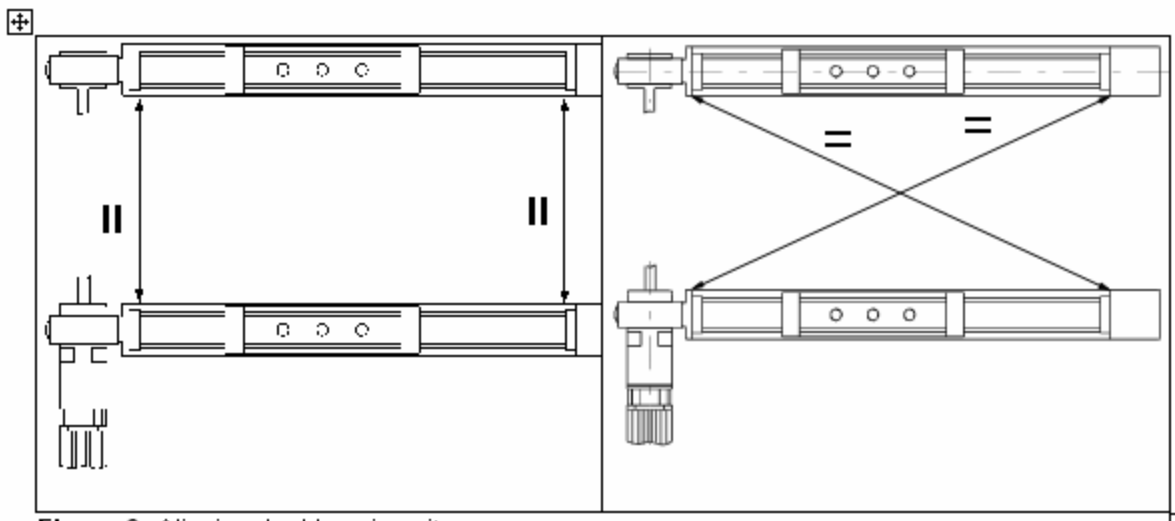

Figure 2: Aligning double axis unit
6. Measure for parallelism using tape measurer [Figure 2 left].
7. Check squareness with diagonal measurement (tape measurer) [Figure 2 right]. If adjustment is needed, correct by moving non-driven axis.